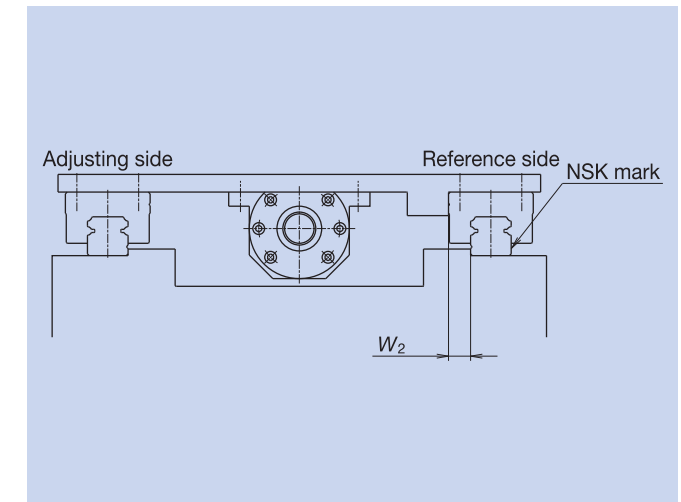

Fig. 9 Most common setting of the referenc side rail
- When the datum surfaces of the reference side rail and slides are pressed to their mounting datum surfaces respectively, the variation of distance (mounting width W_2 or W_3) between the datum surfaces of the rails and that of the slides must be a minimum and therefore, it is specified as the standard. (Figs. 9 and 10)